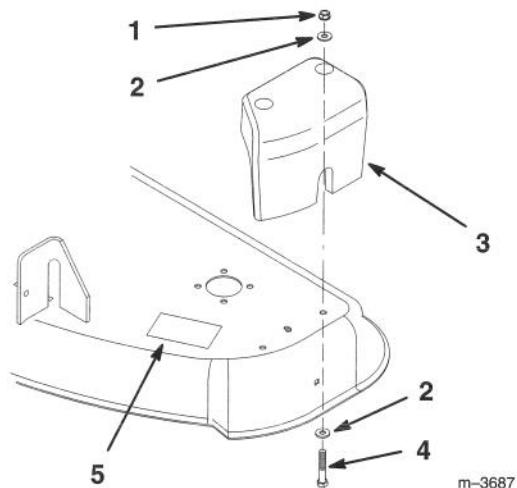

Figure 5
1. Position the mower deck counterweight on the left-hand side of the mower so that it fits snuggly against the side of the mower (Fig. 5).
2. Using a punch in the holes of the counterweight, mark the location for drilling (2) $13/32"$ holes. Remove the counterweight and drill the holes.
3. Secure the counterweight to the top of the mower deck with (2) $3/8 \times 2-1/4$ (57 mm) bolts, (4) $3/8"$ (10 mm) flat washers, and (2) $3/8"$ locknuts.